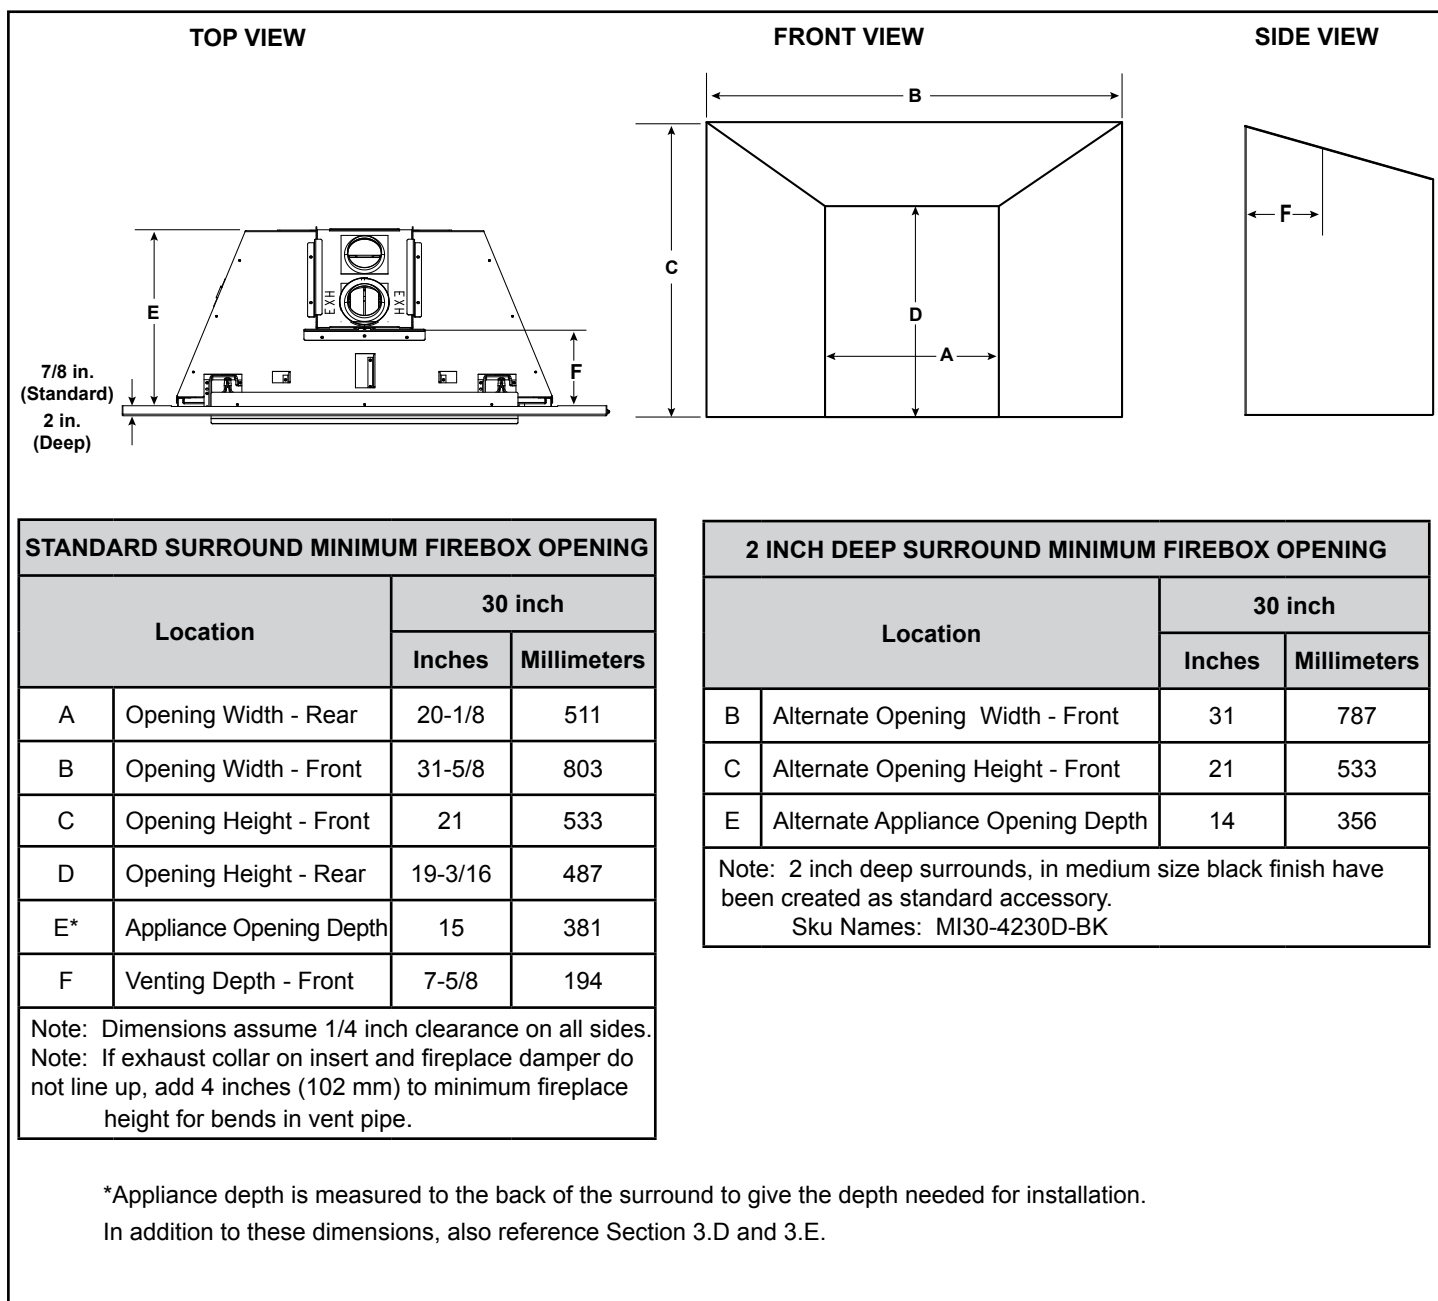

Figure 3.9 Firebox Opening - Standard and Deep Surrounds
***Note:** Location G is the appliance depth measurement, for installation depth reference Location E on Figure 3.9.
Minimum firebox opening requirements for a standard 7/8 inch deep surround are shown in Figure 3.9. For smaller openings, a custom surround is available.